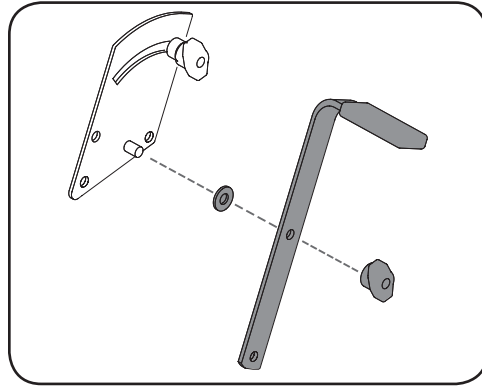

Figure 2-11
- Disassemble the control handle from the control plate by removing the wing nut. Save the control handle, washer and wingnut to reinstall later. See Figure 2-11.